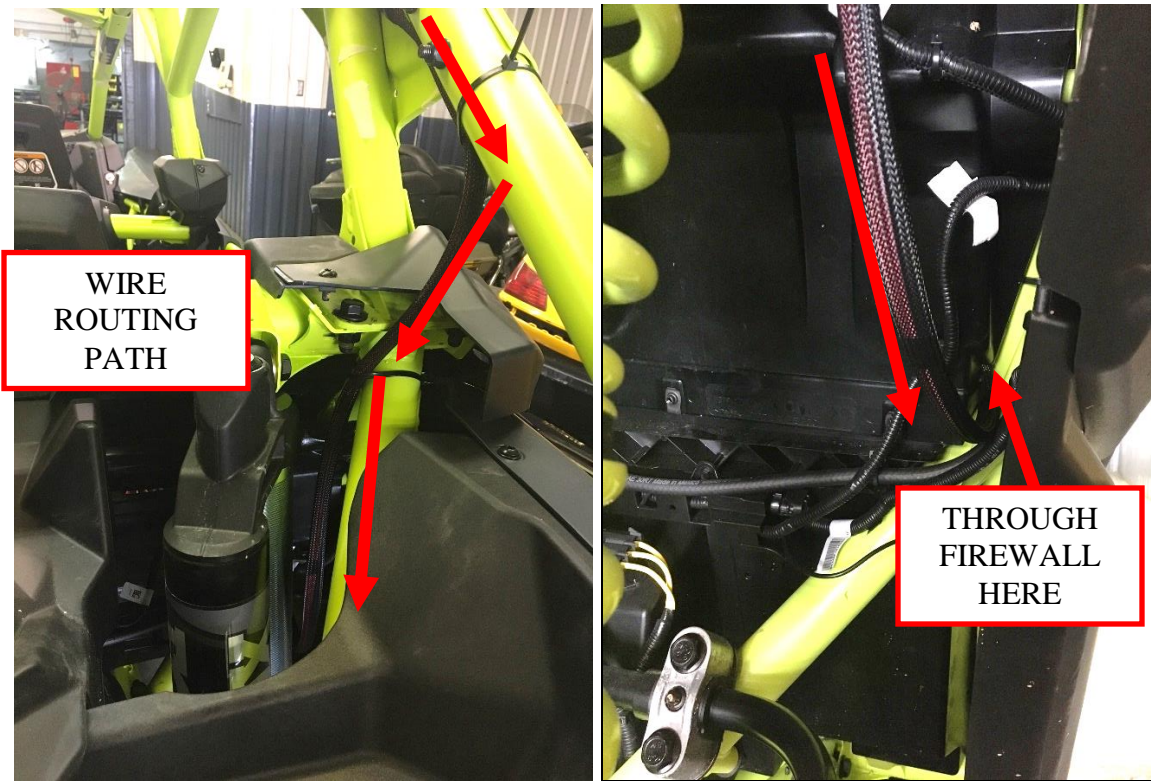

Figure 7: Route the battery cable wiring.
6. Route the chassis wiring harness along the down tube on the passenger's side rear corner of the cage. The ends with the battery terminals and relay block extend through the plastic cage trim, further down the cage, behind the shock, and through the rear seat firewall (shown in Step 7 below). See Figure 7.